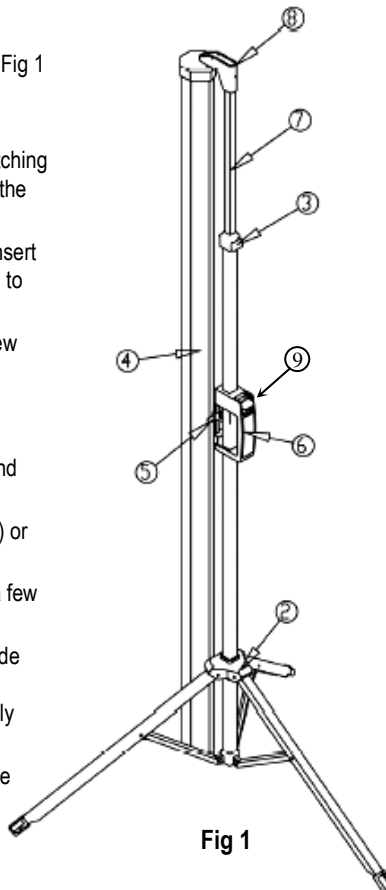

Fig 1
- 1 Open Tripod Base and stand Upright as shown - Fig 1
- 2 Extend legs by pushing down on top of Tripod assembly (2)
- 3 Hold Case (4) horizontal against the Upright, matching the Pin on the case with the hole at the center of the Red Ring (5).
- 4 Rotate the Red Ring (5) counter-clockwise and insert the Case Pin into the hole, allowing the Red Ring to spring back, locking the Case to the Upright.
- 5 Press Autolock (3) & raise Extension Rod (7) a few inches
- 6 Rotate Screen Case (4) to horizontal position.
- 7 To use **Keystone Eliminator**, hidden inside the Hanger Bracket (8) tube, pull out from the tube and fold down extending over Hanger Bracket (8).
- 8 Raise Fabric (4) and place on Hanger Bracket (8) or Keystone Eliminator.
- 9 Squeeze Handle Trigger (9) and raise Case (4) a few inches, anticipating Step 8 below.
- 10 Hold Extension Rod firmly with one hand and guide the Rod up when you press Autolock (3). Raise Extension Rod (7) as far as it will go, to completely open the screen. **See Important Note below!**
- 11 For a flat and rigid screen surface, release Handle Trigger (9) and press down on handle (6) to stretch screen surface.